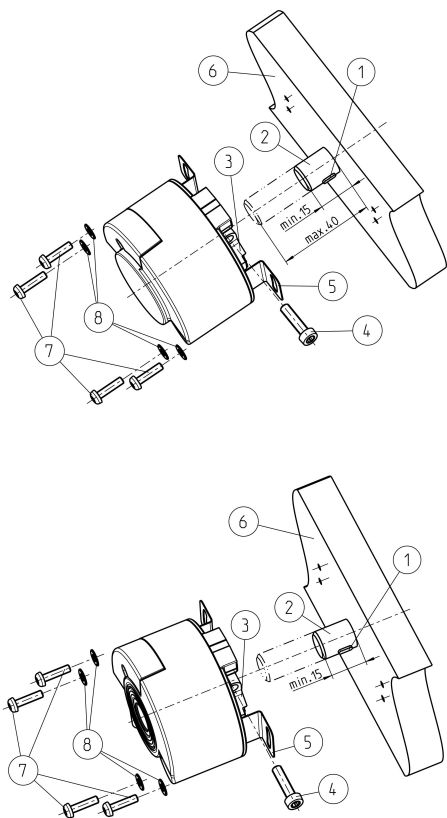

Fig. 1: Mounting a blind/through hollow shaft
With the motor feedback system with spring plate stator coupling (Fig. 1, 2), this is ensured using the spring plate stator coupling (5).